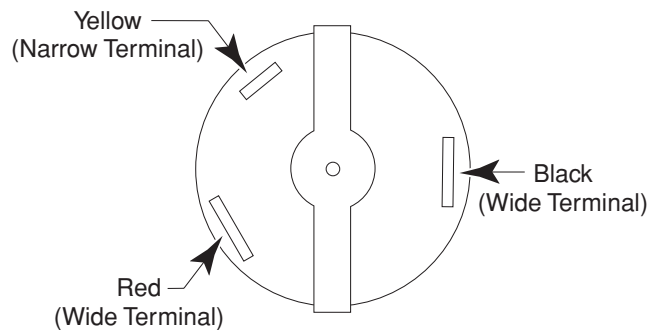

Figure 4-13
5. Unplug the three wires from the terminals of the oven light switch. The wire locators are shown in Figure 4-13.